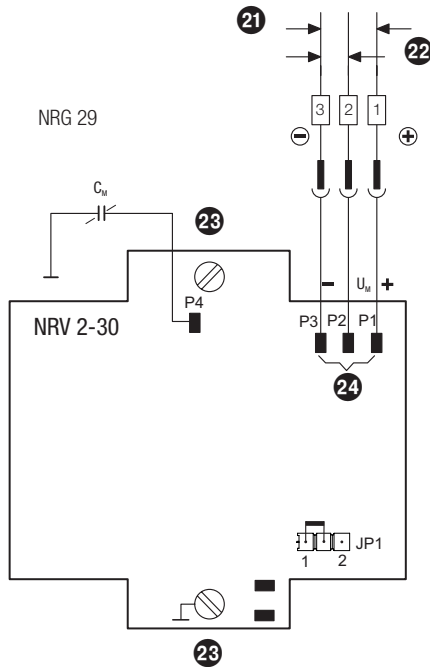

Fig. 5
Connect the shield to the CEP (central earthing point) at the control cabinet end. Wire the terminal strip as shown in the wiring diagram. **Fig. 5**
5. In the contact insert **20**, wire the terminals as shown in **Fig. 5**.
Please check that the level electrode is connected as shown in the wiring diagram (**Fig. 5**) and switch on the supply voltage of the connected NRS 2-4 level switch.
Check the supply and measuring voltages of the level electrode. These voltages can be measured on the level electrode or the level switch. **Fig. 5**
4. Fully unscrew the screws **23** and take out the electronic circuit board. **Fig. 5**